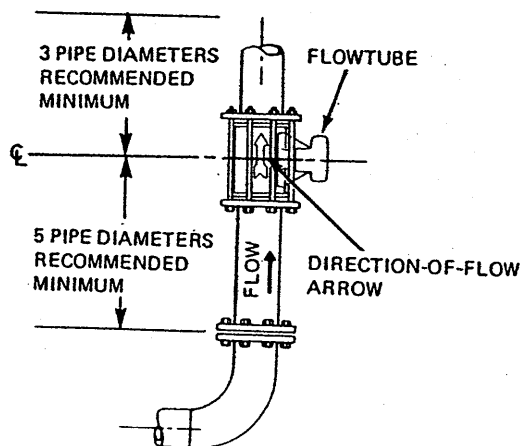
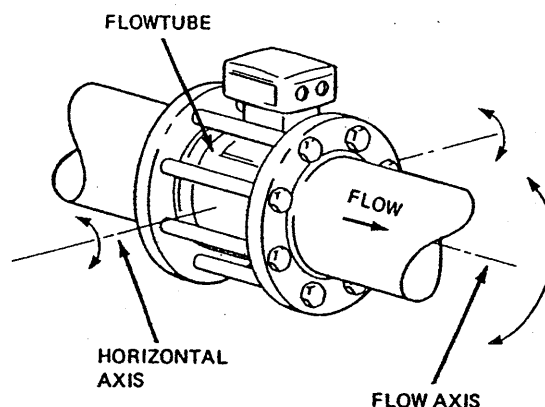

Figure 6. Wafer-Body Flowtube
Figure 7. Wafer-Body Flowtube
The flowtube can be mounted in any position: vertical, horizontal, or at an angle. However, for accurate measurement, the flowtube must be completely full. Vertical installation with flow in an upward direction, as shown in Figure 6, is generally recommended. If mounting flowtube in other than a vertical position, it is recommended that it be turned about the flow axis shown in Figure 7 so that electrodes are horizontal. Electrodes should be horizontal to avoid contacting bubbles (at top) or sediment (at bottom) inside flowtube.
Flow through the flowtube can be in either direction. However, if it is installed with the "direction-of-flow" arrow (shown in Figure 6) pointing upstream, it will be necessary to reverse the flowtube coil-drive wires. An indication that the coil-drive wires should be reversed is given by a negative flow reading or "-A" reading during process flow. Wiring details are given in the "System Wiring" section.
1. Before installing the flowtube, install and adequately support piping. When installing the piping, it is recommended that straight lengths of pipe be used for at least five pipe diameters upstream and three pipe diameters downstream of flowtube center line (see Figure 6) to retain system accuracy.